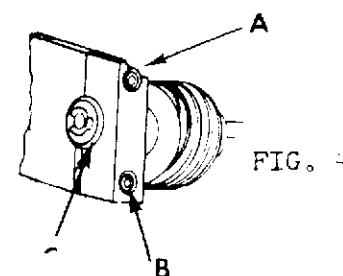

FIG. 4
**REMEDY:** Tighten top screw (A) securely. Tighten screw (B) just tight enough so that the bearing will not move. Do not overtighten. The best method to check this is to insert shuttle adjustment wrench at point (C), and with excessive pressure the bearing should not move. If it does, tighten Screw (B) until the bearing doesn't move. (Refer to Fig. 4)